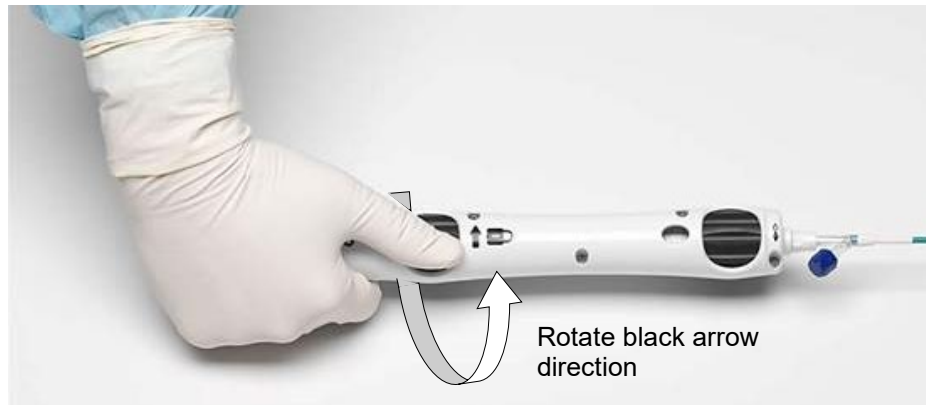

**Figure 14: Rotating the Sheath Knob to Lock the Proximal Anchor**
- n. Lock the proximal anchor at the CS target location by rotating the sheath knob in the direction indicated by the locking arrow until the sheath pushes the proximal anchor eyelet flush against the proximal crimp tube. Retract the sheath by rotating the sheath knob in the reverse direction, opposite the locking arrow. Verify that the proximal anchor eyelet remains against the proximal crimp tube in the locked position. To better visualize and confirm proximal anchor locking, consider viewing the proximal anchor in an LAO cranial projection. If necessary, rotate the sheath knob in the direction of the lock arrow to advance the sheath again for another attempt at locking (Figure 14).